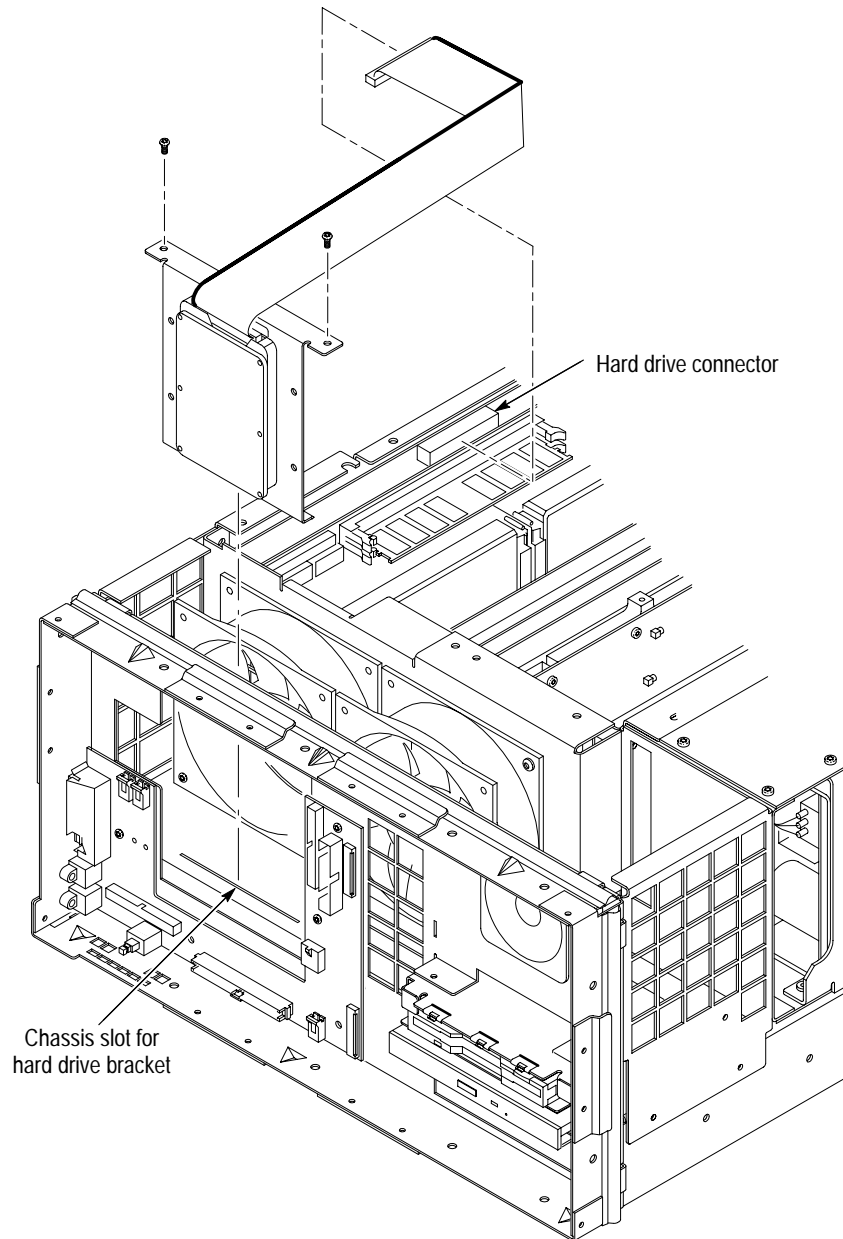

Figure 6–17: Hard drive installation with controller cable connectors
1. Install the hard drive assembly onto the mainframe chassis as shown in Figure 6–17.